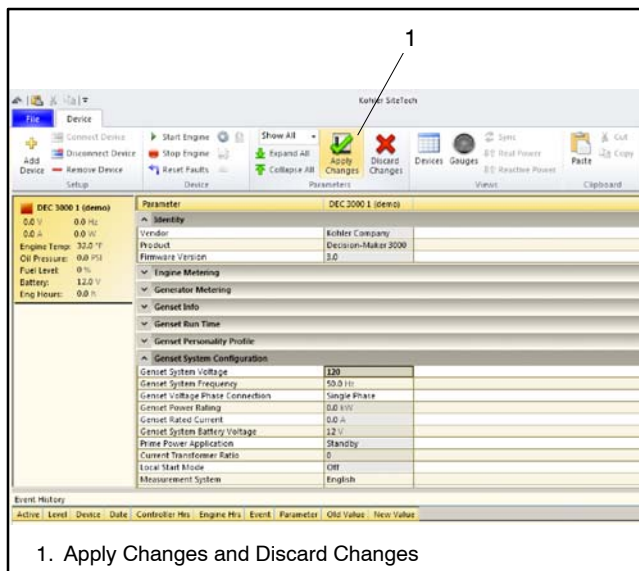

Figure 3-23 Apply and Discard Changes
4. Click on the check mark symbol labeled Apply Changes at the top of the screen to change the settings, or click on Discard Changes to keep the current settings without changes. See Figure 3-23.